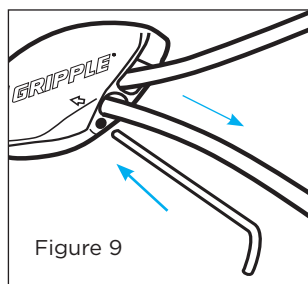

Figure 9
2. Insert key into small hole at bottom of Gripple. Push in 0.25” (6.35mm) to release the cable (see Figure 9).